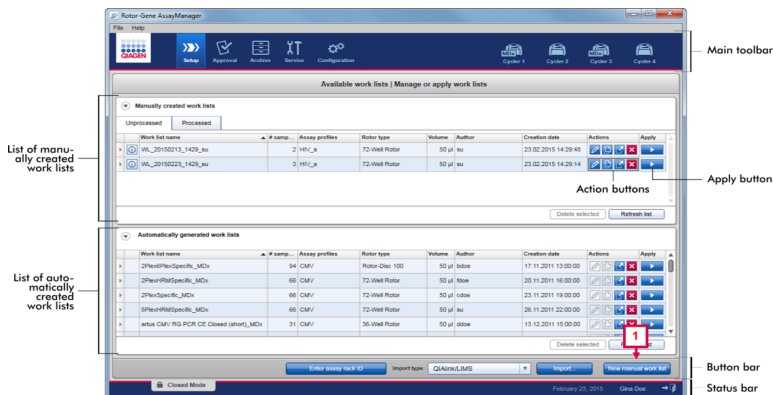

Figure 8. Rotor-Gene AssayManager main window. Box 1 indicates New manual work list button.
7. Select **New manual work list** from the main window to create a new work list (Figure 8, indicated by box 1).